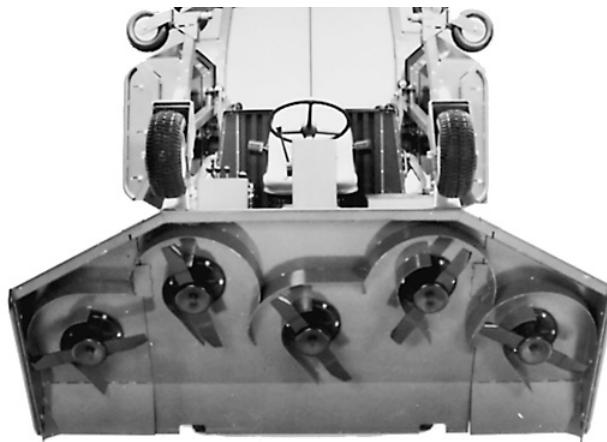

Figure 61
**Note:** Although not needed for normal maintenance procedures, the front cutting unit can be pivoted (tilted) to a fully upright position (Fig. 61). Should you desire to tilt the cutting unit, proceed as follows:
6. Use at least one other person to tilt the cutting unit. Grasp the front of the unit and lift it to an upright position (Fig. 61).